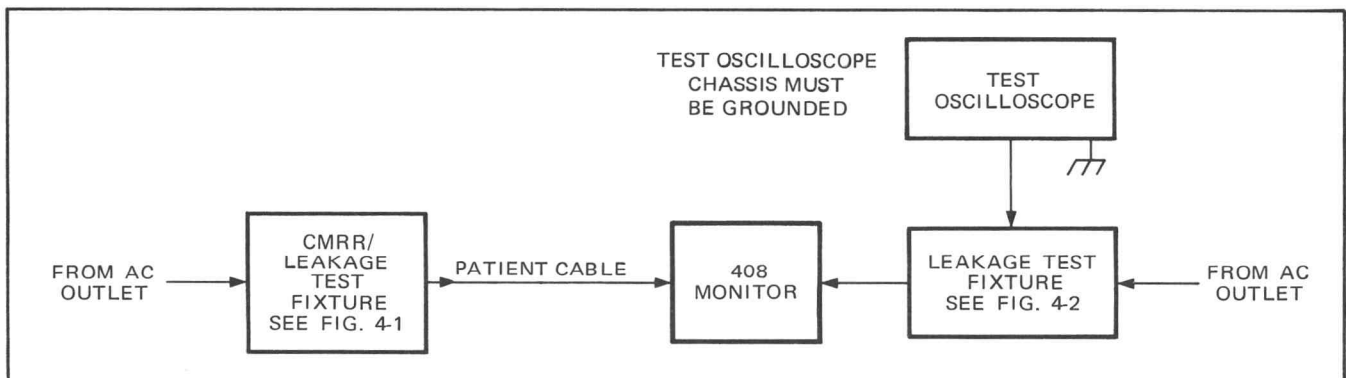

Fig. 4-5. Alternative method to check leakage current.
**ALTERNATIVE METHOD.** Set up the monitor and the test fixture as shown in Fig. 4-5.